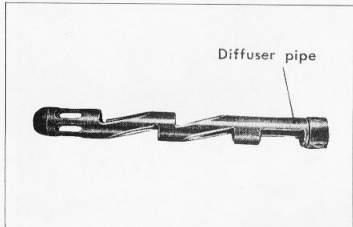

Figure 6-39. Cleaning diffuser pipe
- Tap the pipe lightly to remove the carbon and then wash in solvent or gasoline (Fig. 6-39) The clogging of the diffuser pipe will cause a drop in the engine power output. A loose connection at the gasket joint will produce undesirable noise from leaking exhaust gas.